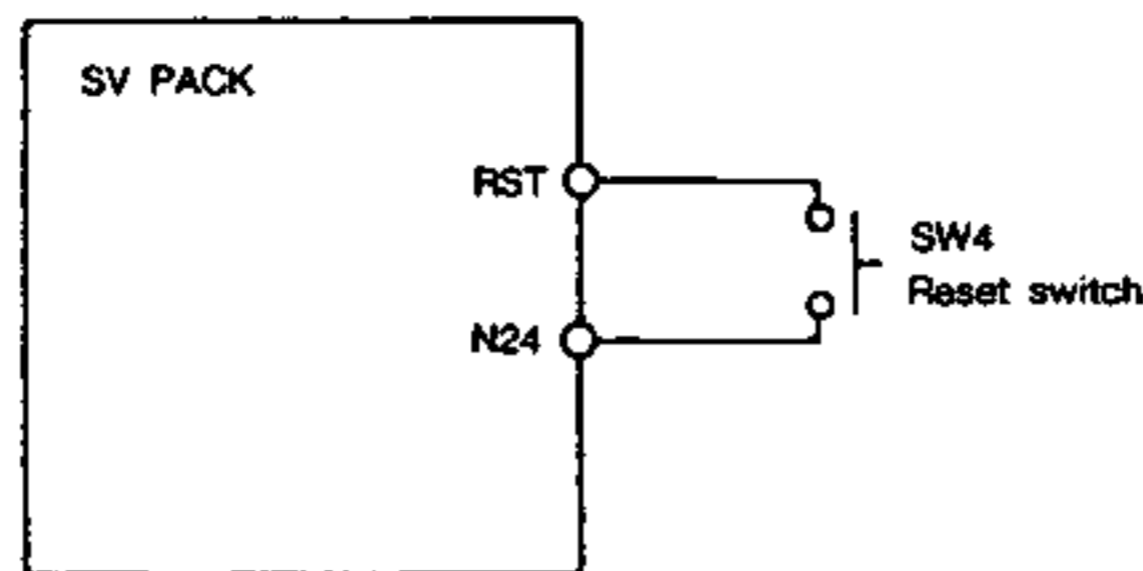

Figure 11
- (6) The protecting function can be compulsorily reset by providing reset switch (automatic recovery) SW4 in between terminals RST and N24 as shown in Figure 11.